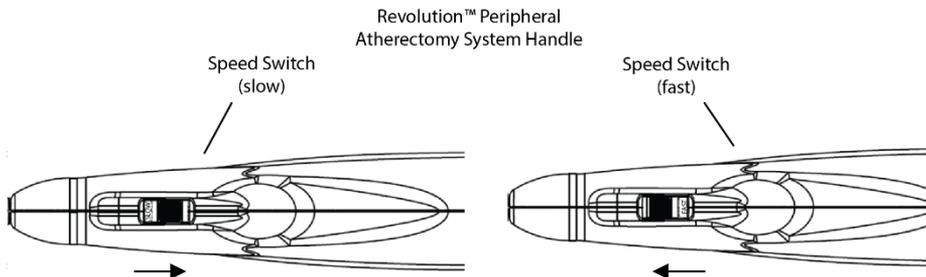

Figure 5: Test both speed positions
- System Test:** Insert the distal tip of the device into a basin filled with normal saline. With the speed switch in the back position (slow speed, Figure 5), depress the ON/OFF button to ensure that the abrasive burr spins freely (refer to Figure 1). Release the button to stop the rotation of the burr, once saline is observed dripping out of the aspiration port. Without removing the distal tip from the basin, push the speed switch to the forward position (fast speed, Figure 5) and depress the ON/OFF button for 5 seconds. Release the button to stop the rotation. **Precaution: Do not use the device if it does not activate immediately when the button is depressed, and deactivate immediately when the button is released in either speed setting.**